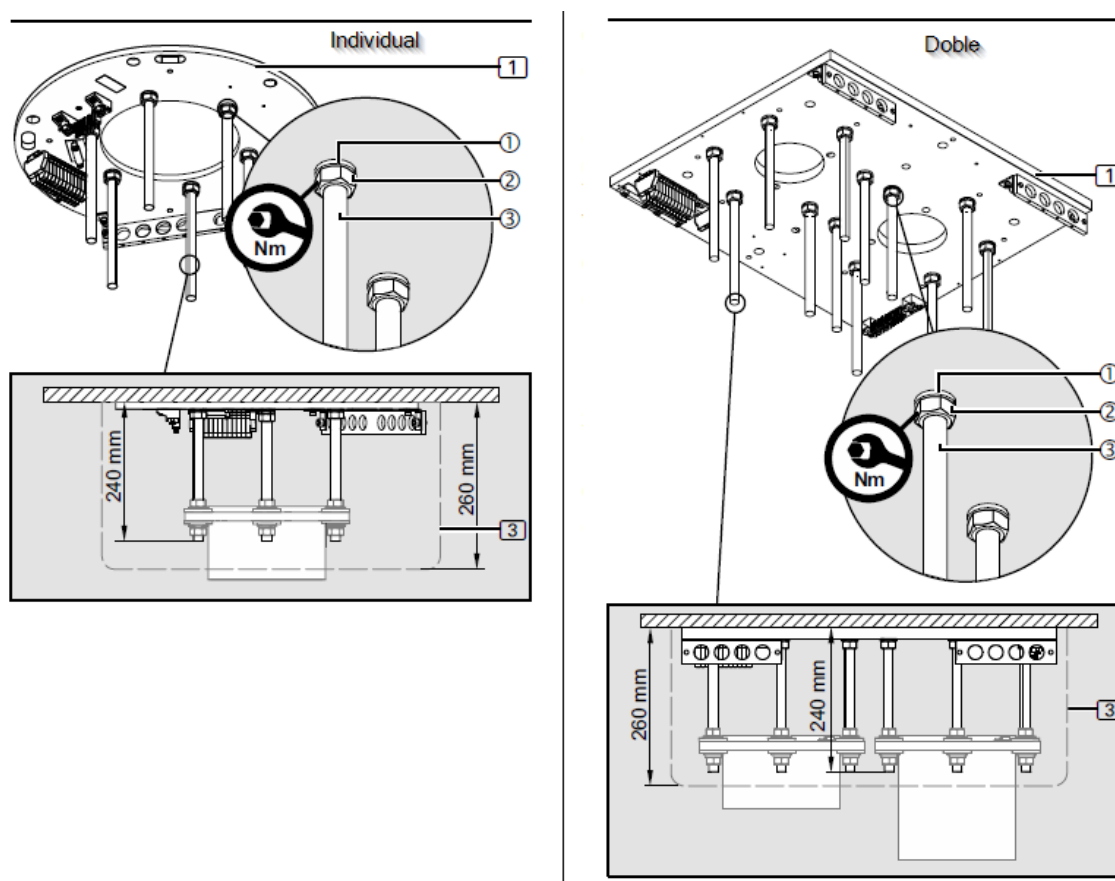

Fig. 13 Mounting of interface plate without false ceiling
- Set the distance between the M16 hex nuts (2) and the interface plate from 1 to  $L = LG - 95$  mm (min. 110 mm / 150 mm).
- Screw the hexagon nuts M16(2) onto the M16 threaded bolts (1) at the calculated distance L.
- Using a digital spirit level, align the M16 hex nuts (2) horizontally.
- Fit 1 flat washer with an outer diameter of 34 mm (3).
- Place 1 plastic insulating disc (4) (as shown in figure 13) in such a way that the flat washer with an outer diameter of 34 mm (3) sits on the plastic insulating disc (4).
- Secure the plastic insulating disc (4) to the M16 threaded bolts (1) with adhesive or elastic tape.
- Adjust the distance between the M16 hex nuts ② and the interface plate from 1 to 150mm.
- Screw the hexagon nuts M16 ② onto the M16 threaded bolts ① at the calculated distance L.
- Using a digital spirit level, align the M16 hex nuts ② horizontally.
- Fit 1 flat washer with an outer diameter of 34 mm ③.
- Place 1 plastic insulating disc ④ (as shown in figure 13) in such a way that the flat washer with an outer diameter of 34 mm ③ sits on the plastic insulating disc ④.